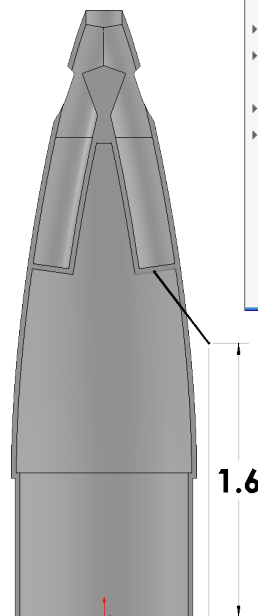

Fig. 58
Step 6. Dimension line to Origin , **Fig. 58**.